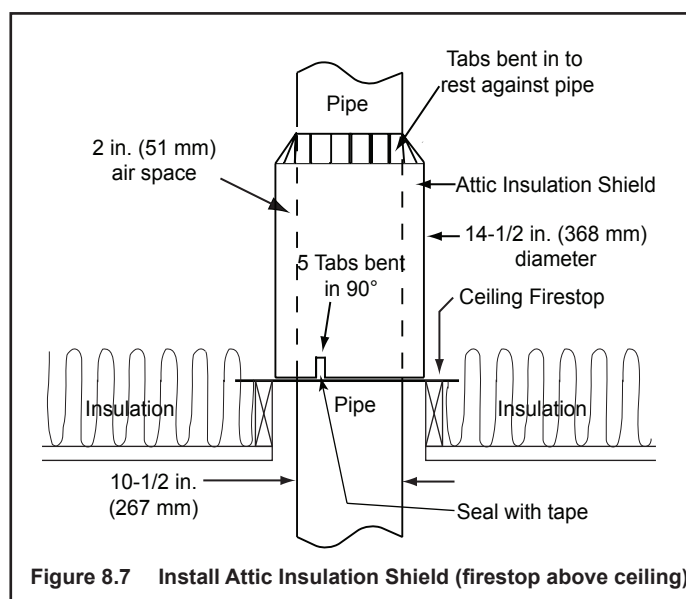

Figure 8.7 Install Attic Insulation Shield (firestop above ceiling)
- The bottom of the termination cap must be at least 3 ft (.91 m) above the roof AND at least 2 ft (.61 m) above any portion of roof within 10 ft (3.05 m) as shown in Figure 8.7.
- The distance required between caps is shown in Figure 8.7.